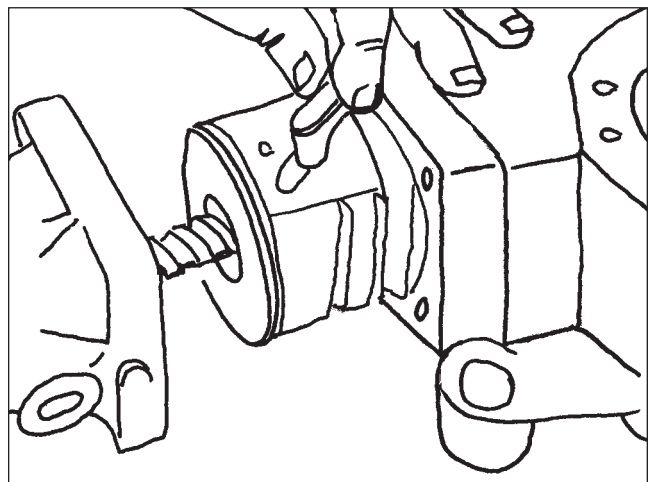

Figure 104
16. Remove the ball return guides. The steel balls are then free to roll out of the ball cavity in the piston (**Figure 104**).